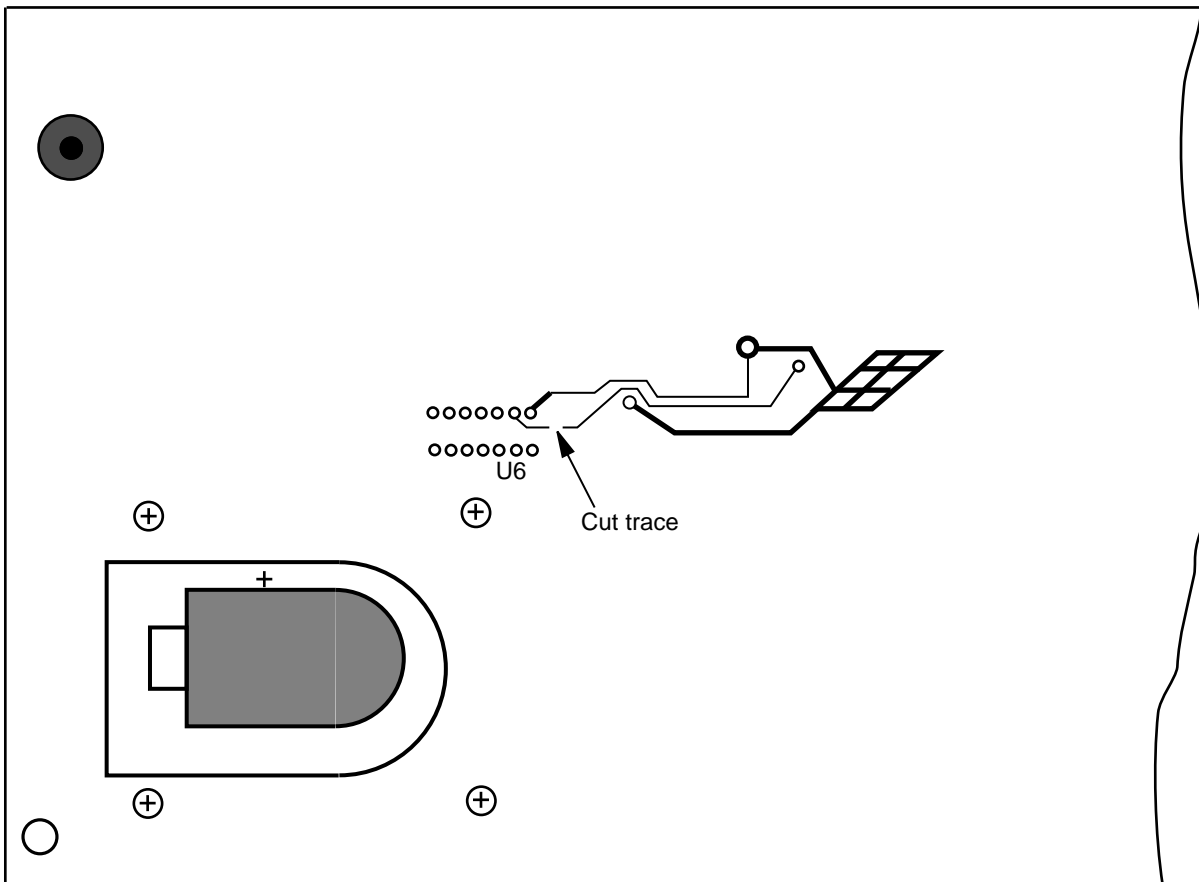

Figure 6. Location of Solder Side Trace Cut on Late Model Keyboards
14. **For late model keyboards only**, cut the trace connected to U6 pin 6 on the solder side (Figure 6).